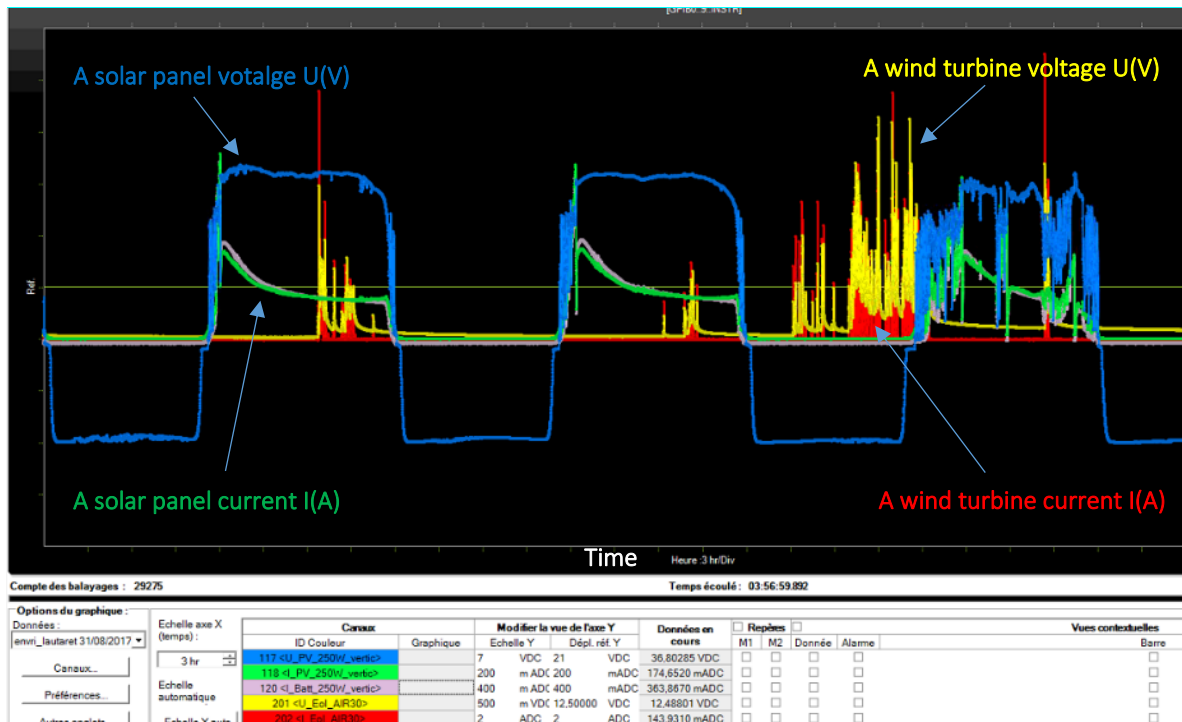

Figure 64 – Example of the data acquisition software displayed
The purpose is to monitor U(V) and I(A) to obtain P(W), as displayed in the Figure 64: